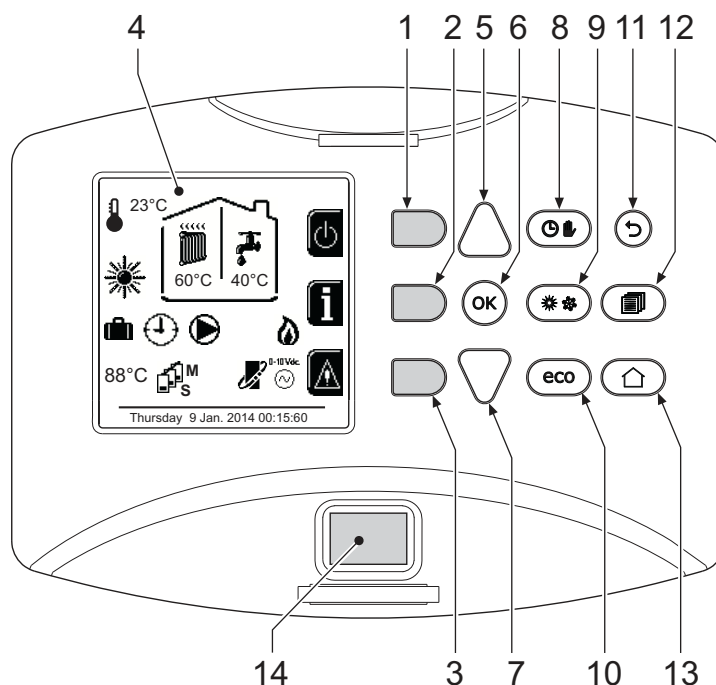

fig. 1- Control panel
The contextual buttons (details 1, 2, 3 - fig. 1) are grey, with no screen print, and take on a different meaning depending on the menu selected. It is essential to observe the indication provided by the display (icons and text). In fig. 1 for example, using the contextual button 2 (detail 2 - fig. 1) it is possible access unit information such as: temperature of sensors, work power, etc.
The direct buttons (details 8, 9, 10 - fig. 1) always have the same function.
The menu/navigation buttons (details 5, 6, 7, 11, 12, 13 - fig. 1) are used to navigate among the various menus implemented in the control panel.
From the Home page, press the main Menu button (detail 12 - fig. 1).
Access the "User" menu by pressing contextual button 1 (detail 1 - fig. 1). Then use the "menu navigation" buttons to access the different levels described in the following table.
Hot water tank temperature maintaining/heating can be excluded by the user. If excluded, domestic hot water will not be delivered. The hot water tank can be deactivated by the user (ECO mode) by pressing the **eco/comfort** button (detail 10 - fig. 1). In ECO mode the display activates the symbol . To activate COMFORT mode, press the **eco/comfort** button (detail 10 - fig. 1) again.
From the main screen (Home), press the contextual button 2 (detail 2 - fig. 1). Then use the "Menu Navigation" buttons to display the following values:
Press the On/Off button (detail 14 - fig. 1).
To adjust the display contrast, press the **contextual button 2** and the **OK button together**. Then press the button ref. 5 of fig. 1 to increase the contrast or the button ref. 7 of fig. 1 to decrease it.